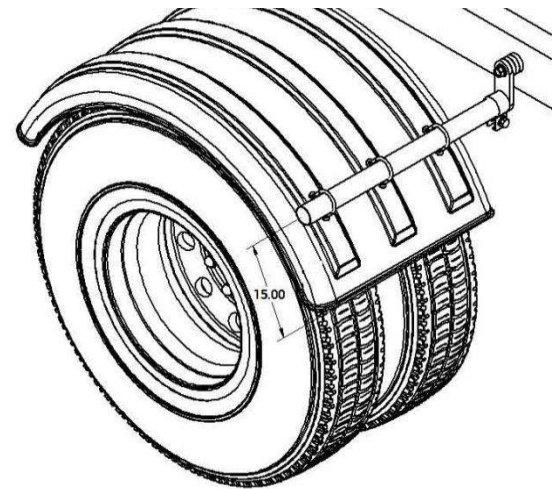

Figure 10
- H. If possible, position the mounting brackets so they are located within 15" of the bottom of the fender. This guards against wind blowing the leading edge of the fender back into the tire (Figure 10).